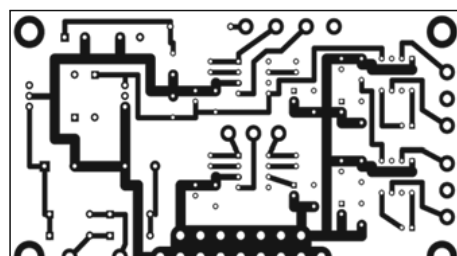

FIGURE 5: Bottom traces.
- A trace map of the bottom side of the board as shown in Fig. 5.